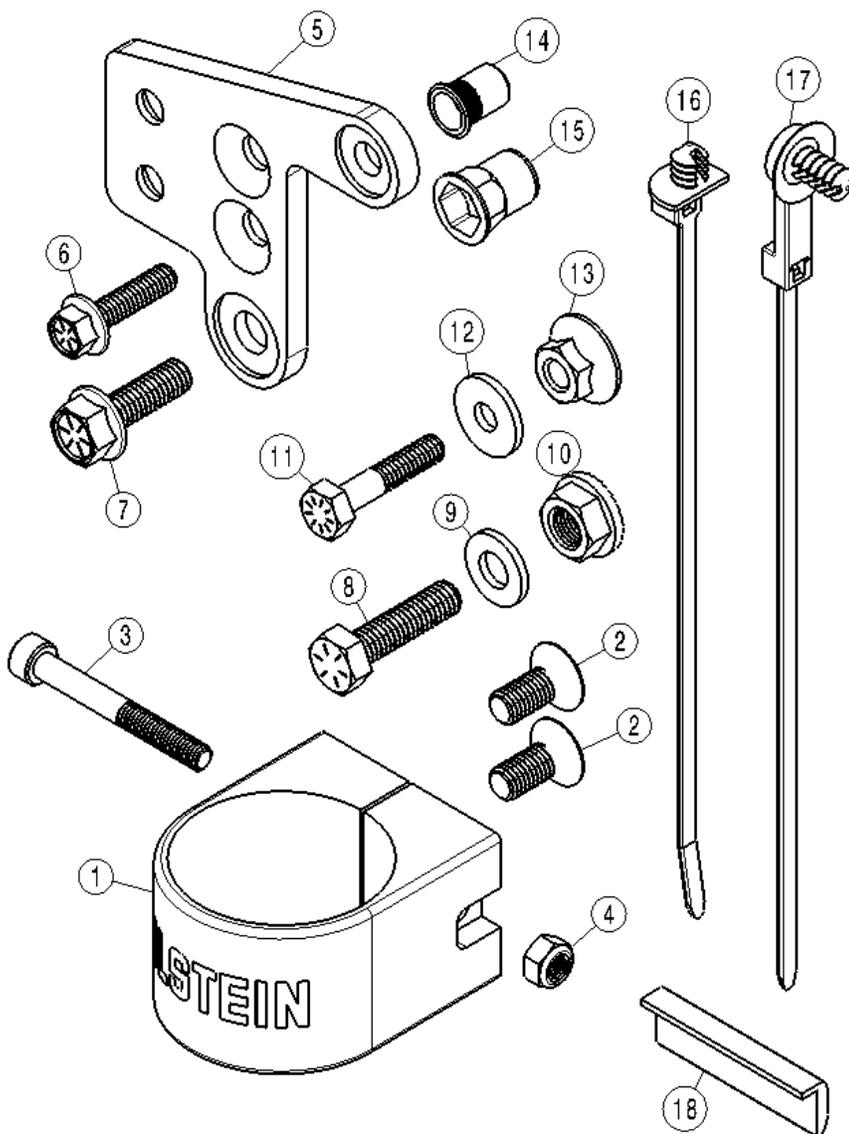

Figure 1: Mount Parts Kit
- B. A mount kit is included to allow the remote reservoir to be attached to the vehicle frame rail behind the front bumper. This kit is depicted in Figure 1.